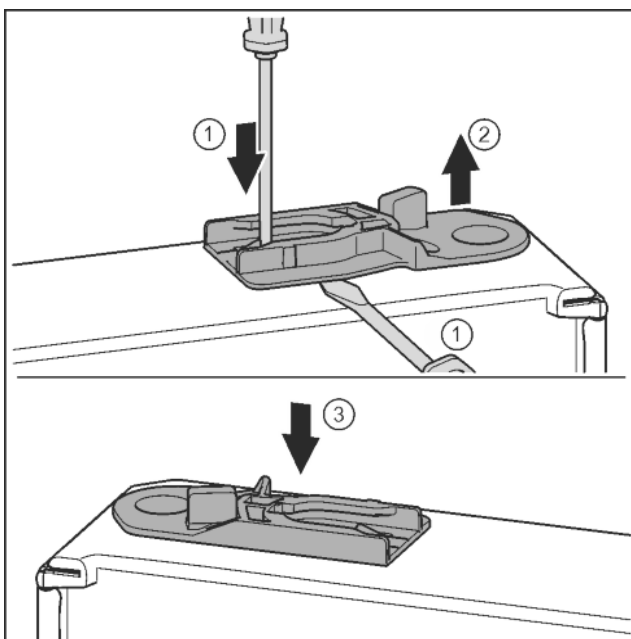

Fig. 31
- ▶ Pull out the guide bush: Press the tab with a slotted screwdriver and, at the same time, insert the slotted screwdriver under the guide bush. *Fig. 31 (1, 2)*
- ▶ Slide the guide bush included in the scope of supply to the other side of the housing. *Fig. 31 (3)*